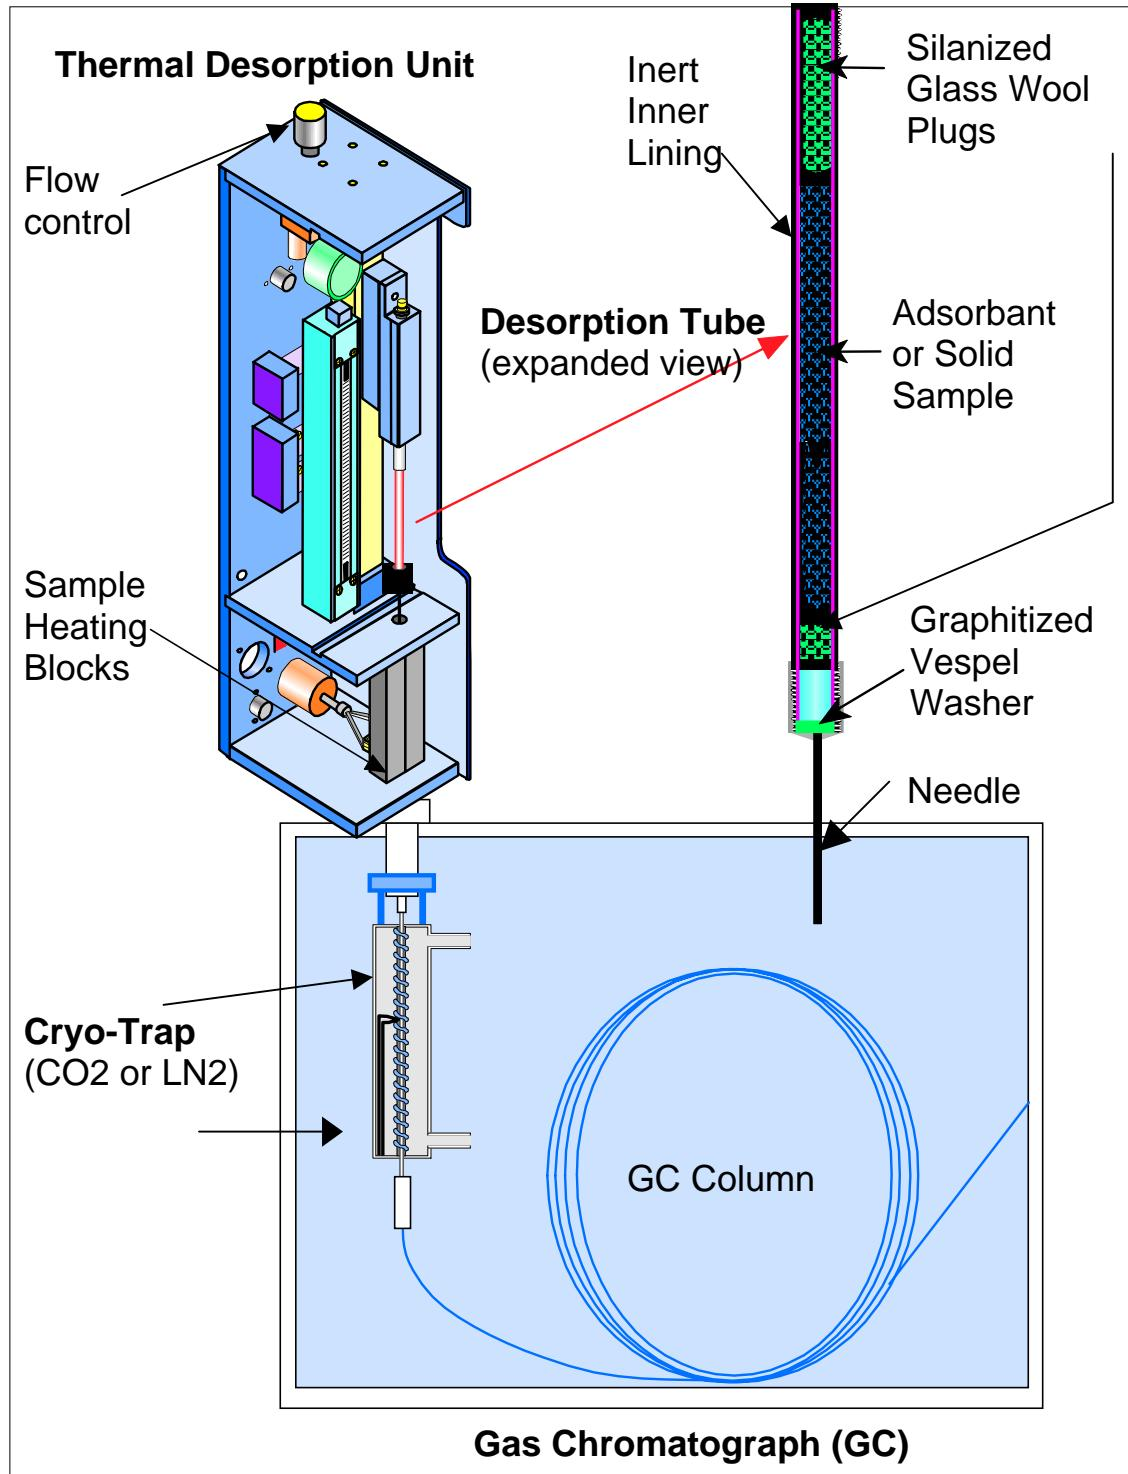
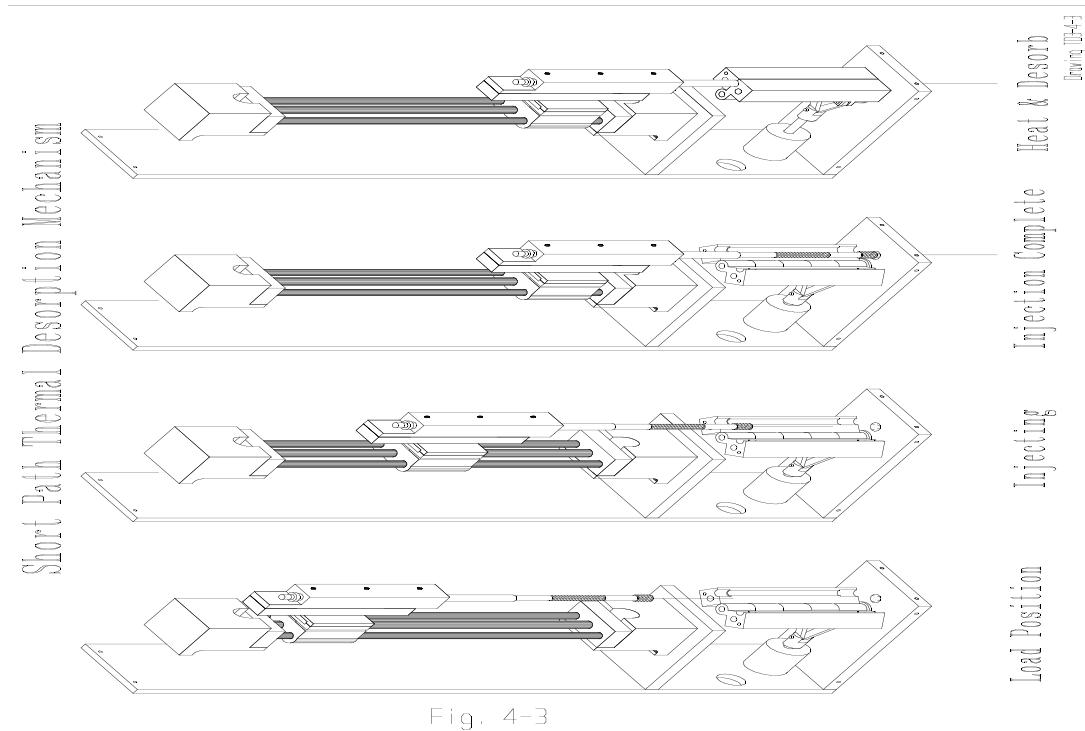

Figure 1-1 – Diagram of desorption (sample) tube, Desorption Unit, and Gas Chromatograph (GC).
Figure 1-2 - Injection and desorption of sample tube in the desorption unit.
| Figure 1-1 – Diagram of desorption (sample) tube, Desorption Unit, and Gas Chromatograph (GC). | 1-11 |
| Figure 1-2 - Injection and desorption of sample tube in the desorption unit. | 1-13 |
This method involves the purging and trapping of VOCs onto a glass (GLT) or silco-coated stainless steel desorption tube packed with an adsorbent resin (e.g. TenaxTM TA or activated carbon). In an alternate method called Direct Thermal Extraction (DTE), a solid matrix sample is placed directly into the desorption tube. This tube is then fitted with a syringe needle and placed into the Desorption Unit (Figure 1-1). The desorption tube containing the sample is then injected into the GC injection port (much like a GC syringe) and heater blocks are closed around the tube to heat the sample and release analytes onto the GC column (Figure 1-2). The GC column (either capillary or packed) is normally maintained at sub-ambient temperatures, or at a suitable temperature low enough to retain any volatiles, during the initial desorbing (typically 5-15 minutes). Though this may be accomplished by cryogenically cooling the entire GC oven, it is more efficient to use the optional SIS Cryo-Trap to cryogenically cool (via CO₂ or LN₂) and trap analytes at the head of the GC column. When the sample has been fully desorbed into the GC column, the Cryo-Trap rapidly heats to release the trapped analytes in a narrow band. The analytes travel through the GC column and into the detector (e.g. a mass spectrometer, MS). This entire process permits the “short path” desorption of samples into the GC injection port and column, providing for the optimum delivery of samples (maximum sensitivity) to the GC.